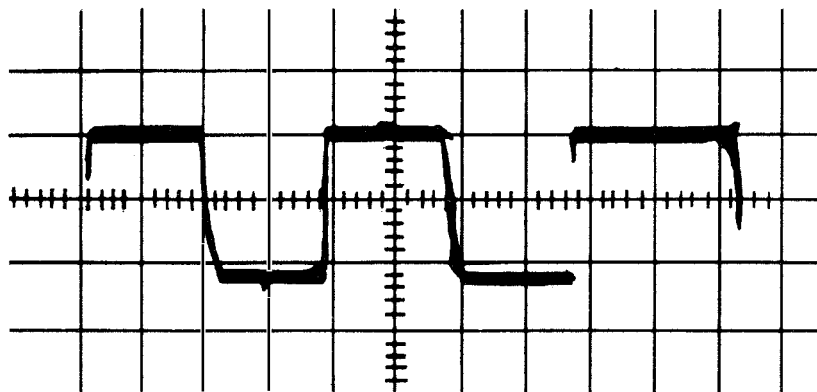

Figure 5.1 Waveform Method I
2. Insert a test tape in the TD. The tape should contain a repetitive character such as an R. Start the TD and adjust the scope sweep controls to obtain a stationary pattern including several marks and spaces. A pattern similar to that shown by Figure 5.1 should be obtained. The marking and spacing levels should be symmetrical with respect to the scope base line.
Do not use the stop baud as a marking element. It is of a longer time duration than the other elements of the signal. The stop baud appears at the right hand side of the trace shown by Figure 5.1.